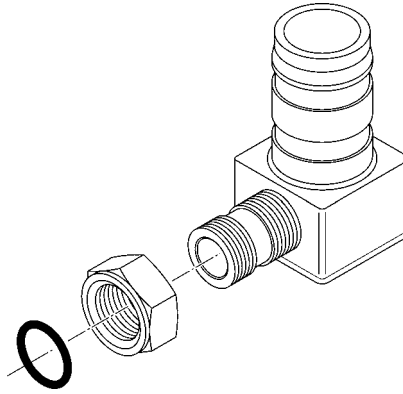

Figure 2 Fitting of Jamnut
- l. Screw jamnut onto new fitting winding all the way on (see Figure 2).
Ensure flat side of jamnut faces towards body of new fitting (see Figure 2).